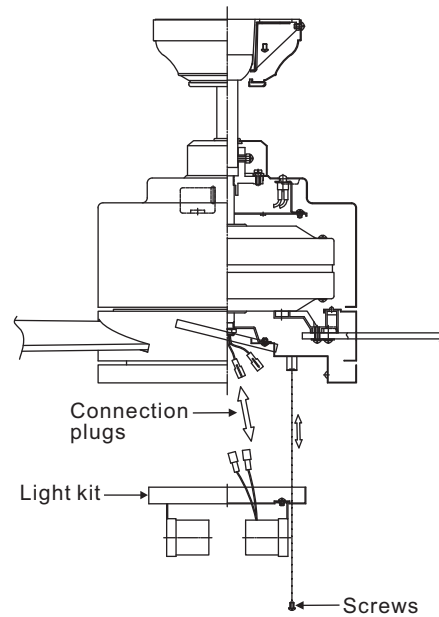

Figure 19
**Step 2.** Raise and hold the light kit close to the mounting plate and proceed to do the wire connections. Connect the white wire connectors from the light kit and fan, follow the same procedure with the black wire connectors. (Fig. 19)
**Step 3.** Tuck connections neatly into mounting plate. Place the light plate key holes over the 2 screws previously loosened from the mounting ring, turn light kit until it locks in place at the narrow section of the key holes, secure by tightening the 2 screws previously loosened and the one previously removed. (Fig. 19)